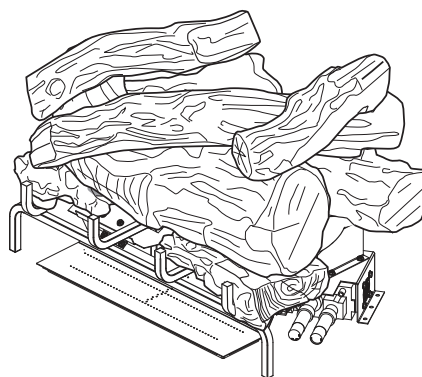

Figure 26 - Final Assembly
8. Final Assembly is shown in **Figure 26**. See **Figure 27, Page 18** for additional views.